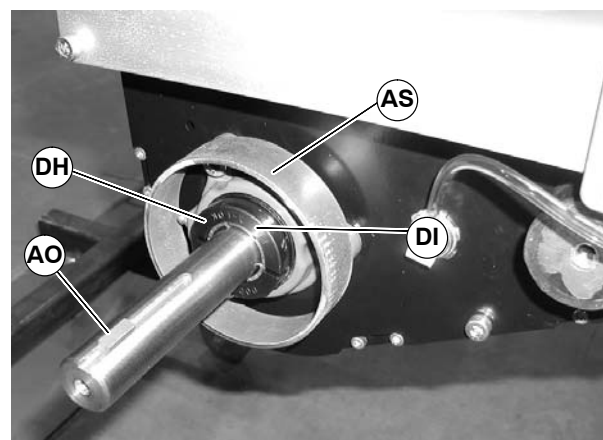

Figure 105
3. Remove spacer ring (AS of Figure 105) and key (AO). Loosen clamp screw (DH) and remove bearing collar (DI).
7. Reinstall bearing collar (DI of Figure 105). Tighten clamp screw (DH) to 95 in-lbs (11 N-m).
8. Reinstall key (AO of Figure 105).